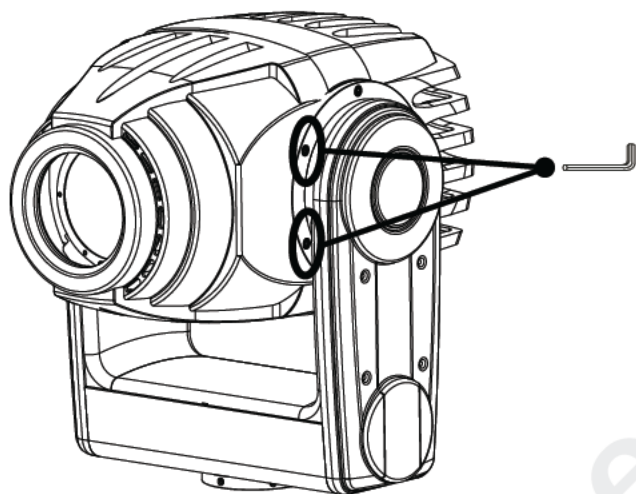

Fig. 1
1. Loosen the two screws shown in Fig.1 on both sides of the fixture